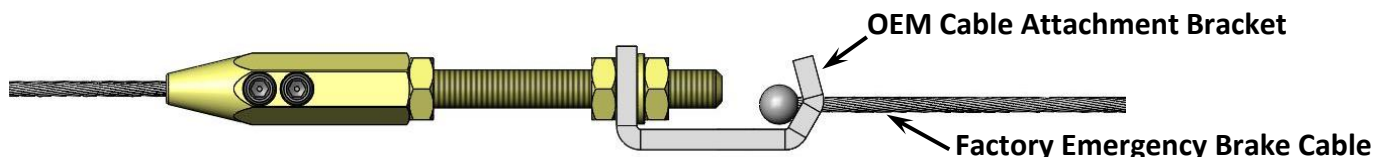

Figure 5 – Attachment to Factory Park Brake Cables w/ Provided Connectors
9. Place the Single Wire Union Assembly over the end of the Inner Wire and tighten the set screws with a 1/8" Allen wrench. The 5/16"-24 threaded rod that inserts into the Single Wire Union may be shortened to allow for adjustment. If needed, an OEM Cable Attachment Bracket has been provided to attach the Universal Emergency Brake Cable Kit to the factory cables. Tighten the jam nut securing the 5/16"-24 threaded stud into the Single Wire Union along with the two jam nuts securing OEM Cable Attachment Brackets if they are used. Refer to Figure 5 below for reference on using the provided connectors.